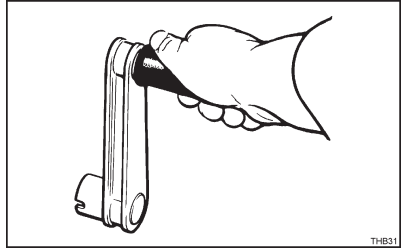

Figure 3.4.2 Holding the starting handle.
7. Firmly hold the handle grip, with the thumb on top of the grip as shown in *Figure 3.4.2*, and crank the engine briskly. When sufficient speed is obtained move the decompressor lever towards the gear end and continue to crank until the engine fires.